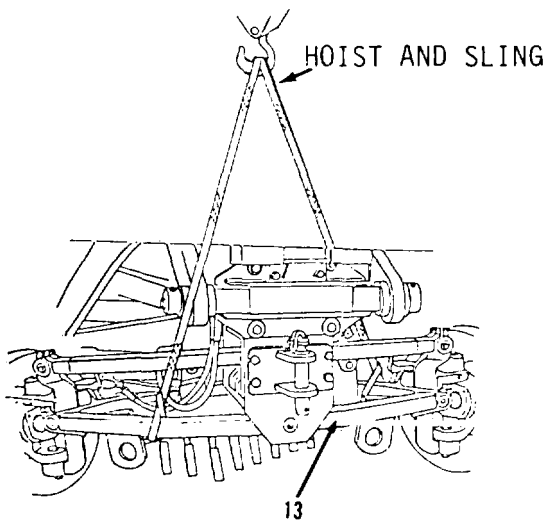

Figure 5-68.
3. Install hoist and sling on front axle (13, Figure 5-68).